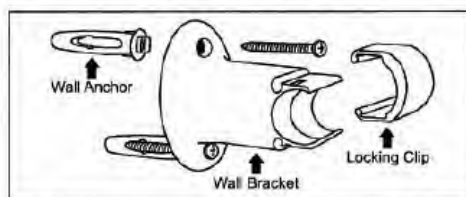

Figure 1
- Where a stud is conveniently located, you can just use the screws to attach the wall bracket. For the remaining wall brackets, use the wall anchors supplied to firmly anchor the screws into the dry wall (please note that the wall anchors may look different than those shown in figure 1).